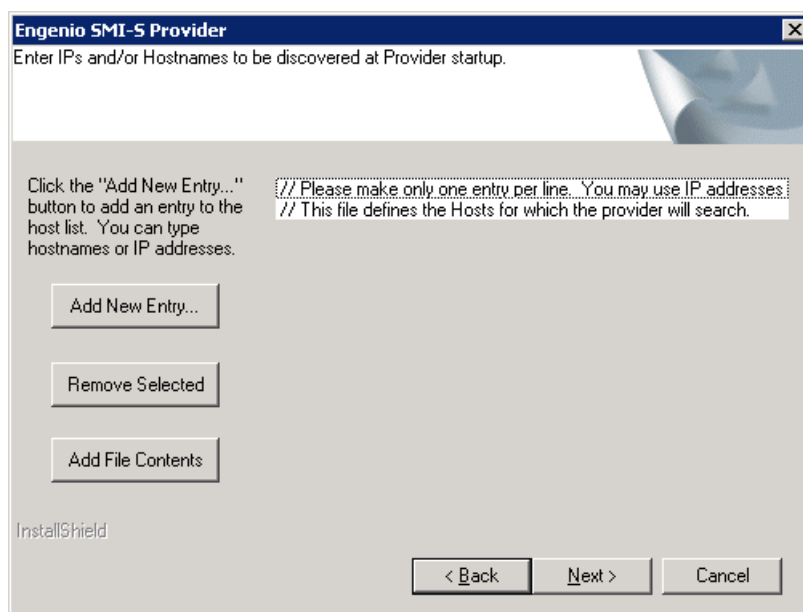

Figure 7-7 Device List window
7. In the next window, enter IP addresses or host names of devices to be discovered by the SMI-S Provider at startup, as shown in Figure 7-7. In this case, you need to enter IP addresses of your DS4000 storage subsystem.